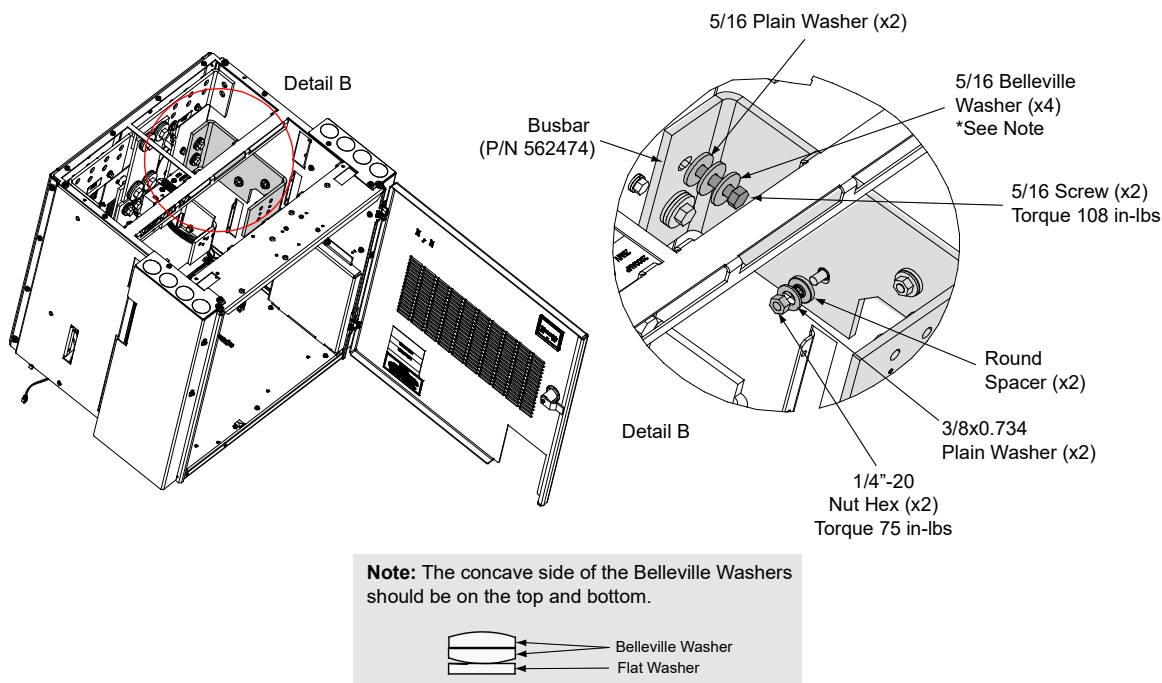

**Figure 1.8** Mounting the new busbar (P/N 562470) from the return side, re-use original hardware.
- [ ] 4. Mount the new busbar (562470) to the return side as shown in **Figure 1.8**.